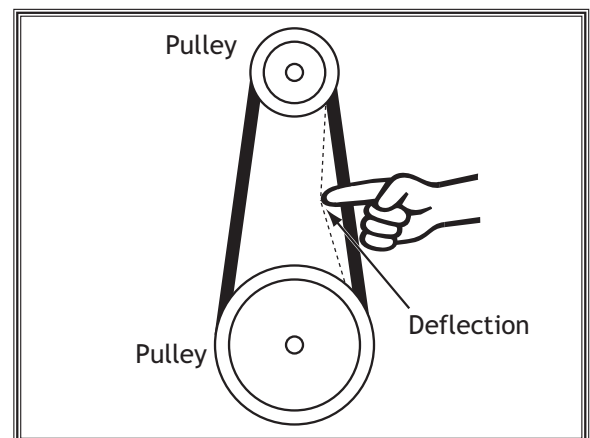

Figure 32. Testing for  $\frac{1}{8}$ " belt deflection.
**Note:** When properly tensioned, belt should deflect about  $\frac{1}{8}$ " when moderate pressure is applied to belt mid-way between upper and lower pulley, as shown in Figure 32.